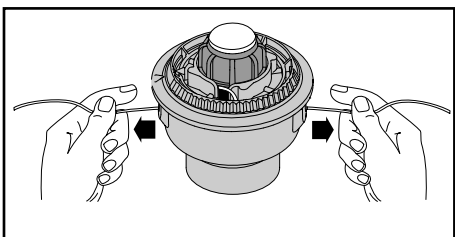

Fig. 22
7. If winding the line becomes difficult or the line jams, pull the ends of the line away from the spool and continue winding the inner reel counterclockwise (Fig. 22).